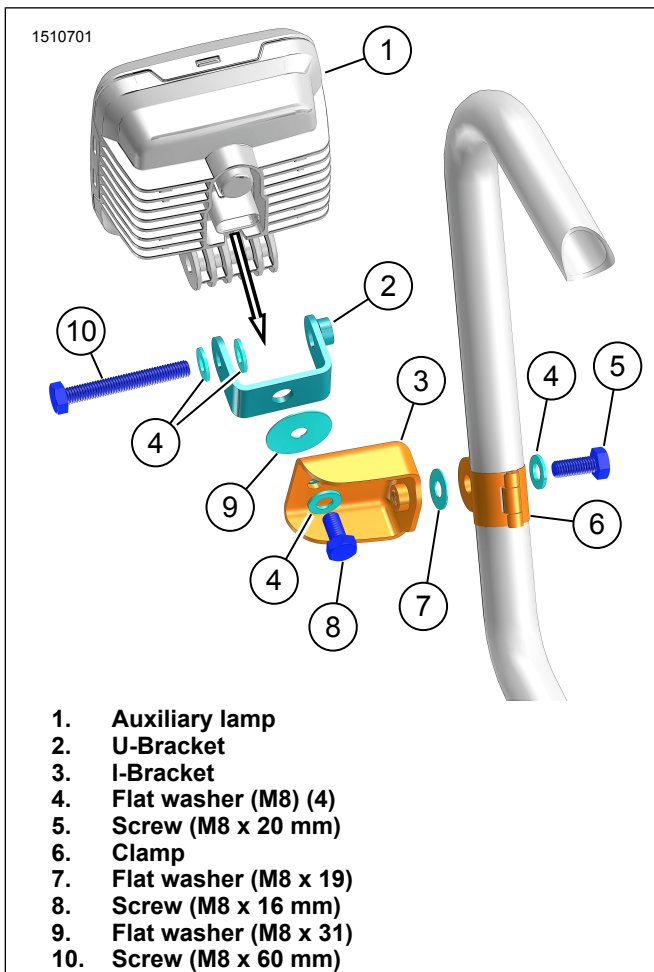

Figure 4. Auxiliary Lamp Install (typical)
1. See Figure 4. Install U-bracket (2) on auxiliary lamp (1).
- a. Install screw (10) and two flat washers (4).
- b. Loosely tighten screw (10).
2. Install I-bracket (3) to U-bracket (2).
- a. Install screw (8), flat washer (4) and flat washer (9).
- b. Loosely tighten screw (8).
4. See Figure 4. Install clamp (6) to I-bracket (3).
- a. Install clamp (6) over guard protector.
- b. Install screw (5), flat washer (4) and flat washer (7).
- c. Loosely tighten screw (5).